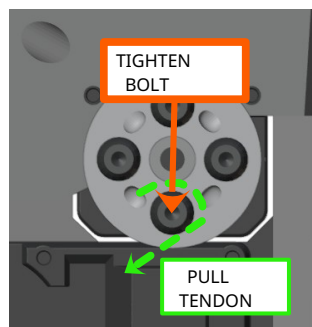
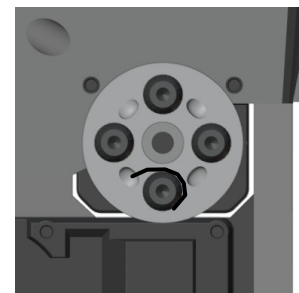

Figure 5.67: Rotation
Figure 5.63: Tendon
6. Pull the extension end of the tendon from the bottom hole (until the finger is straight) and fix it to the bottom bolt with a clockwise rotation around it (figure 5.67). While holding the tendon pulled with a manual assembly plier, tighten the bolt well to lock the tendon (figure 5.38). The figure 5.63 shows the completed operation.